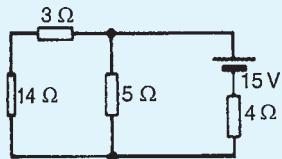

Figure 13.49
1. Use Thévenin's theorem to find the current flowing in the  $14\Omega$  resistor of the network shown in Fig. 13.49. Find also the power dissipated in the  $14\Omega$  resistor.